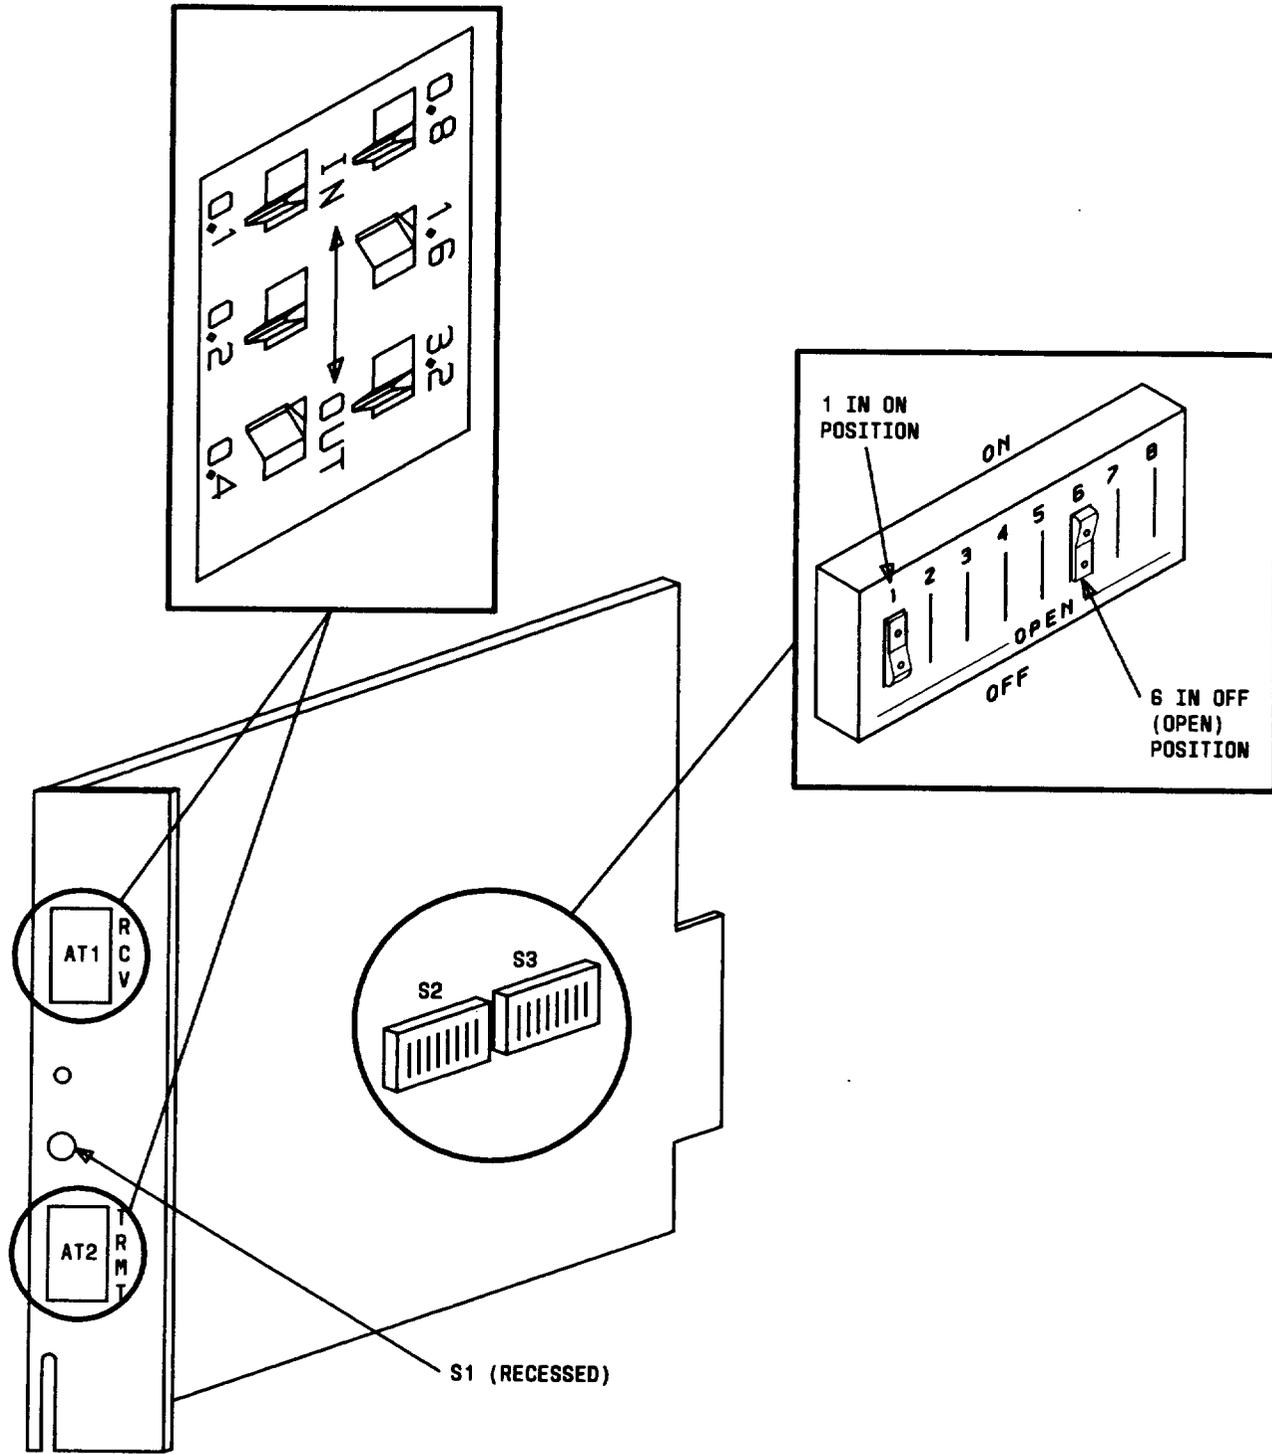

Fig. 3—Switch Locations and Settings
**3.03** Two DIP (dual in-line package) switch assemblies control the various options available and must be set to conform to circuit requirements. The location of the switches is illustrated in Fig. 3. The options available, and the effect of the settings on the circuit, are listed in Tables B, C, and D. Table D, provided by the International Engineering and Operation Organization, lists the switch settings associated
**3.04** Two attenuation pads are located on the front of the transceiver (Fig. 3) to build out the channel bank-to-VIU trunk loss to  $-3$  dB TLP (transmission level point). Each pad should be set for  $-3.2$  dB upon installation. The 5B insertion loss is 6.8 dB in the receiving direction and 9.8 dB in the transmitting direction. Later, cross-office tests may require the settings be modified. Pad settings are illustrated in Fig. 3.